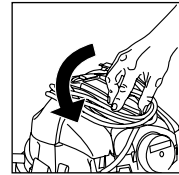

FIGURE 19
44. To remove the cord from the cord wraps grasp the sides of the rear cord wrap located behind the handle, turn counter clockwise 180° until the tip of the cord wrap is above the handle. **FIGURE 19.**